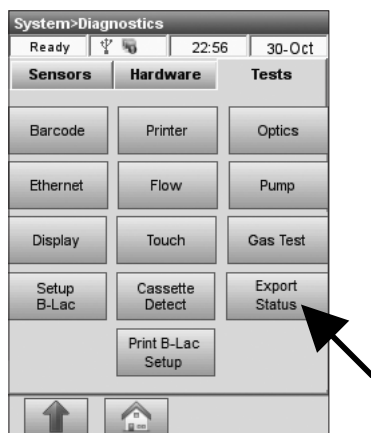

Fig. 8-47 Export Status
- Press **<Export Status>** (Fig. 8-47).